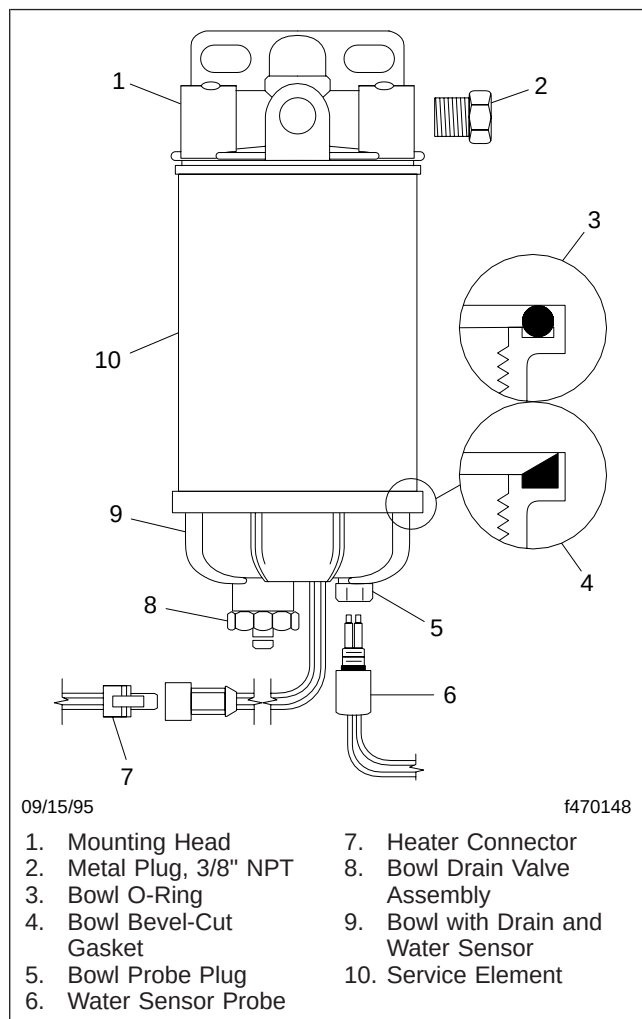

Fig. 5, Racor 690R Fuel/Water Separator (6120R Similar)
1. Drain off some fuel by loosening the vent plug and opening the drain valve. See Fig. 5.
8.1 Remove the 3/8-inch metal plug located at the top of the fuel/water separator (see Fig. 5, Ref. 2), and manually fill the unit with diesel fuel.